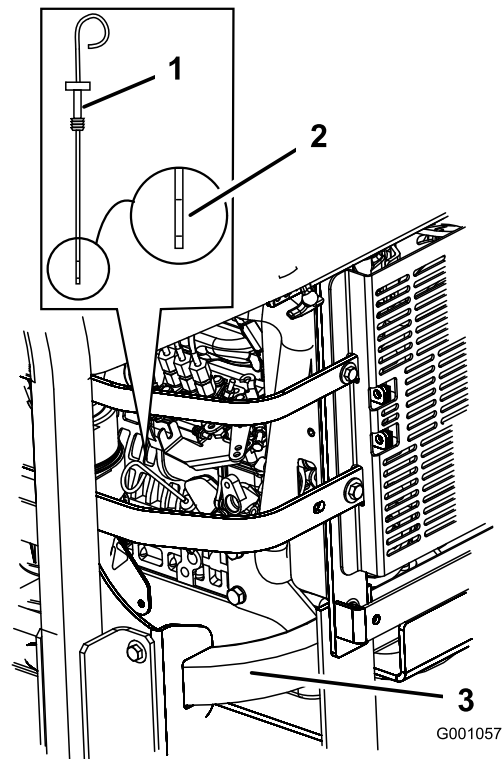

Figure 42
3. Clean around the oil dipstick (Figure 42) so dirt cannot fall into the filler hole and damage the engine.
4. Pull the oil dipstick out and wipe the metal end clean (Figure 42).
5. Slide the oil dipstick fully into the filler tube. Pull the dipstick out and look at the metal end (Figure 42). If the oil level is low, slowly pour only enough oil into the fill hole to raise the level to the full mark.